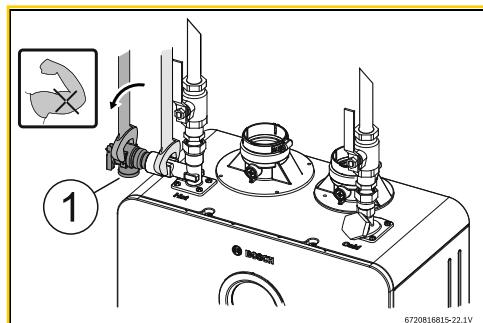

Fig. 27 Plumbing Connections (with shutoff valves) and Pressure Relief Valve
- ▶ Use the integrated port to install the PRV, see Fig. 27 [1].
- ▶ Tighten the PRV with the support of a wrench, see Fig. 27.
- Full port shutoff valves should be installed on both the cold water supply and hot water outlet lines to facilitate servicing the heater (see fig. 27).